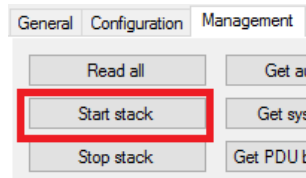

Figure 10: Start the sink
- iii. Start the radio stack on the "Management" tab (see figure 10).